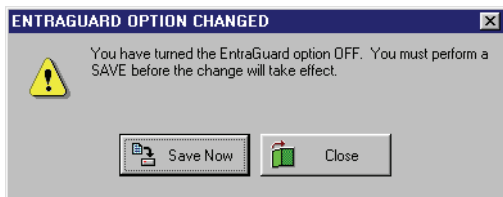

Figure 10-2: EntraGuard Option Changed - OFF
2. Click on the **EntraGuard ON** box. The check mark in the box disappears. Because the changes required to implement EntraGuard make major changes to the *Doors* program and its supporting databases, a confirmation window appears making this reminder (see Figure 10-2).